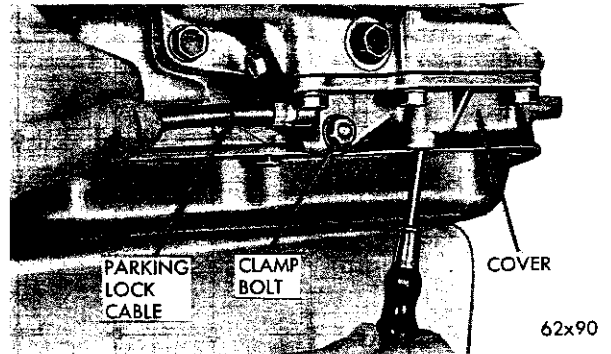

Fig. 16—Installing Parking Lock Cable
(2) With a screw driver inserted through the plug opening, push gently against projecting portion of the cable lock-spring, then withdraw the lock cable. **Do not use pliers or similar tool to withdraw cable from adapter cover as the cable cover might be damaged causing an oil leak.**
(3) To install the cable, have an assistant hold the parking lock lever (on instrument panel) in the OFF position.
(4) Insert a screw driver through the plug opening and position it behind the cable adapter stop washer (Fig. 16). Hold the adapter outward while pushing the cable in as far as possible, making sure the lock-spring engages the cable.
(5) Gently pull outward on the cable housing to its limit of travel, release and then tighten the clamp